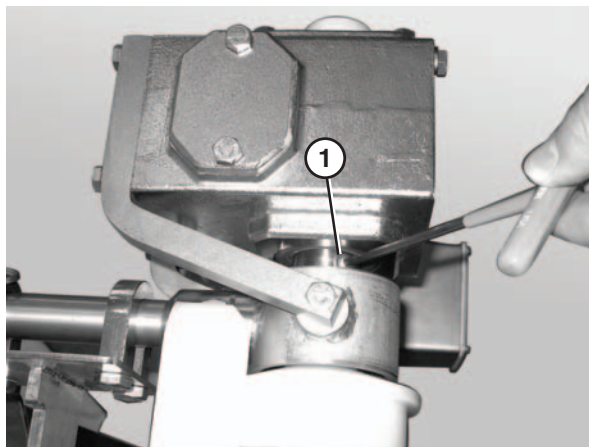

Figure 67
1. Loosen the button head screws (**Figure 67**, item 1) that connect the gearmotor to the drive spindle.